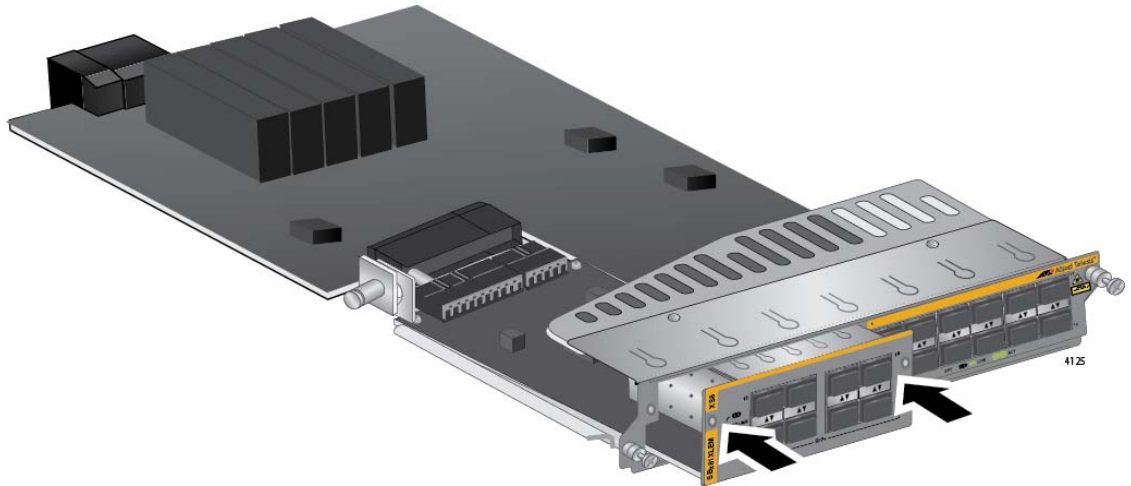

Figure 89. Seating the Expansion Module on the Connector in the AT-SBx81XLEM Line Card
- When the expansion module makes contact with the connector inside the line card, gently press on both sides of the faceplate to seat the module on the connector. Refer to Figure 89 on page 163. The module is fully installed when its faceplate is flush against the faceplate of the AT-SBx81XLEM Line Card.